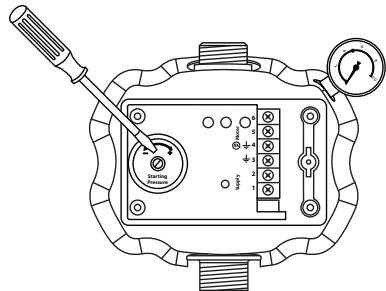

Fig. 8 Start Pressure Adjustment
5. Turn the adjusting slotted head screw clockwise until the pump starts (fig. 8).